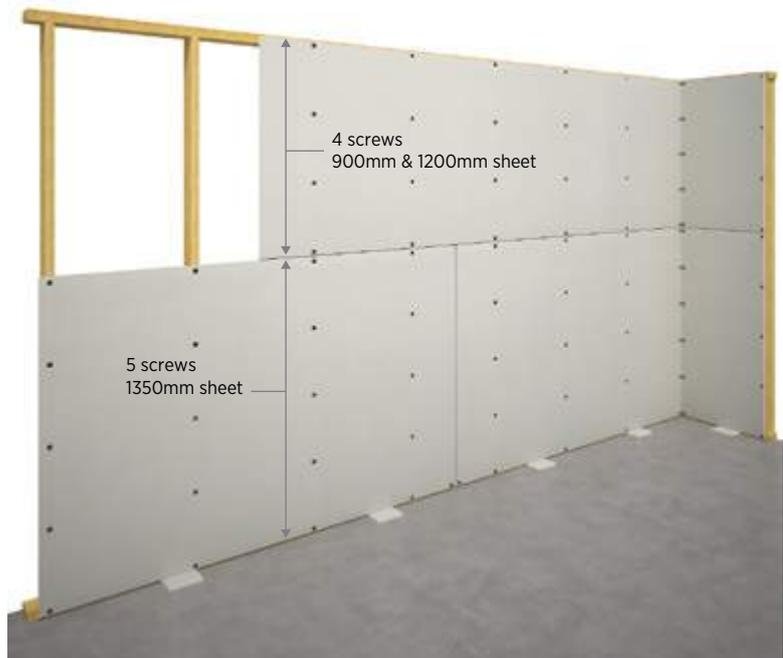

Figure 31: **Screw fixing to walls**
- Refer Table 23 and Figure 31 for wall fastener layout.